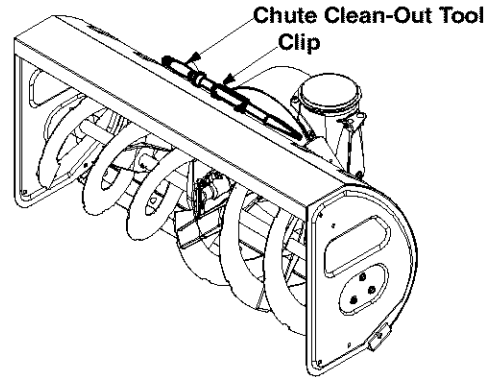

Figure 19
- Remove the clean-out tool from the clip which secures it to the rear of the auger housing. See Figure 19.